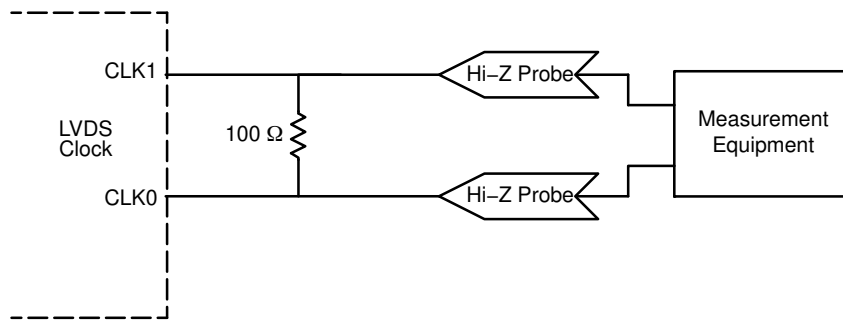

Figure 9. LVDS Parameter Measurement
- LVDS outputs require 100  $\Omega$  receiver termination resistor between differential pair. See Figure 9.